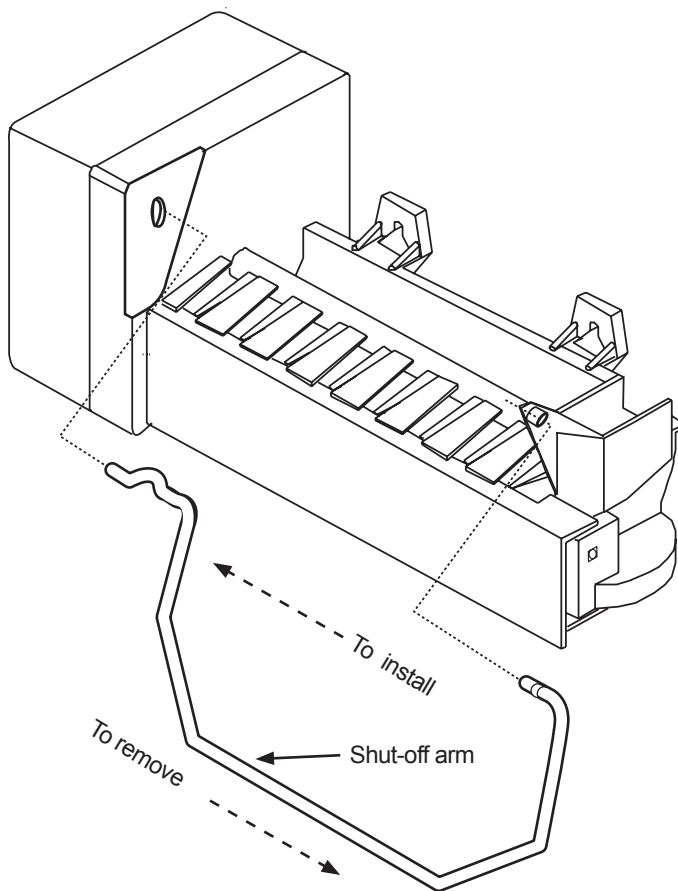

Figure 10-20. —Shut-off arm removal and installation.
11. Remove the shut-off arm. See Figure 10-20.